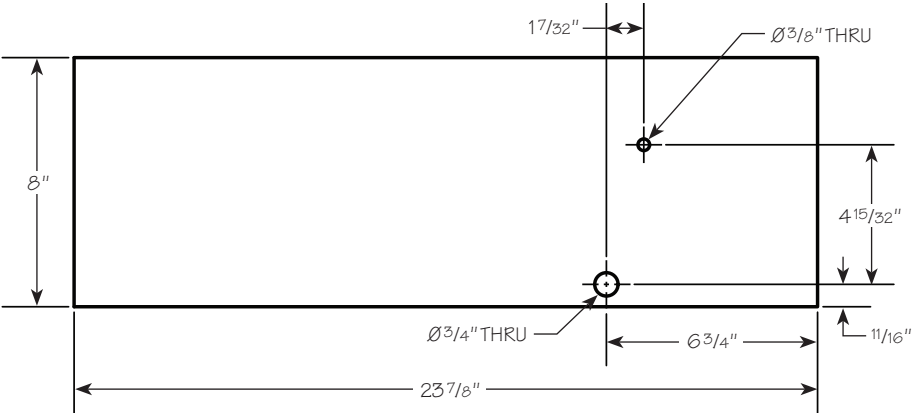

Figure 2: The dimensions for the fence panel.
1. **Fence Panel:** The fence panel has the locating holes for the fence inserts and the detent plate. Dimensions are shown in **Figure 2**.